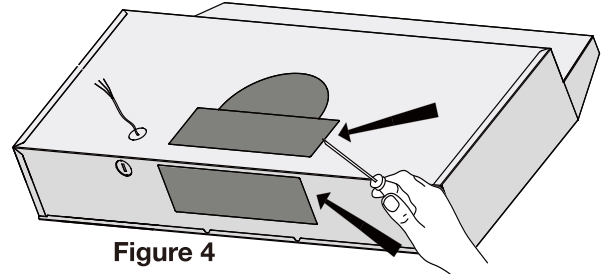

Figure 4
- Depending on the exterior venting option chosen (see page 10), pop out the steel panel on either the top of the range hood (see Figure 4).